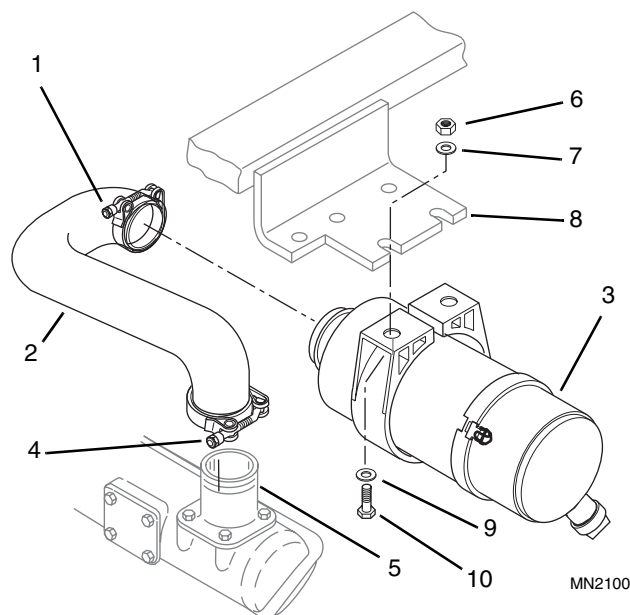

Figure 10-57 Air Cleaner Removal
25. Loosen the hose clamp (Fig. 10-57, 1) that secures the air intake hose (2) to the air cleaner assembly (3). Loosen the hose clamp (4) that secures the air intake hose (2) to the engine induction manifold (5) and remove the intake hose (2). Plug or cover the induction manifold intake port (5) to prevent entry of dirt or debris into the engine.
26. Remove hex locknut (Fig. 10-57, 6), rebound washer (7), flat washer (9), and cap screw (10), and remove the air cleaner (3) from the frame crossmember (8).